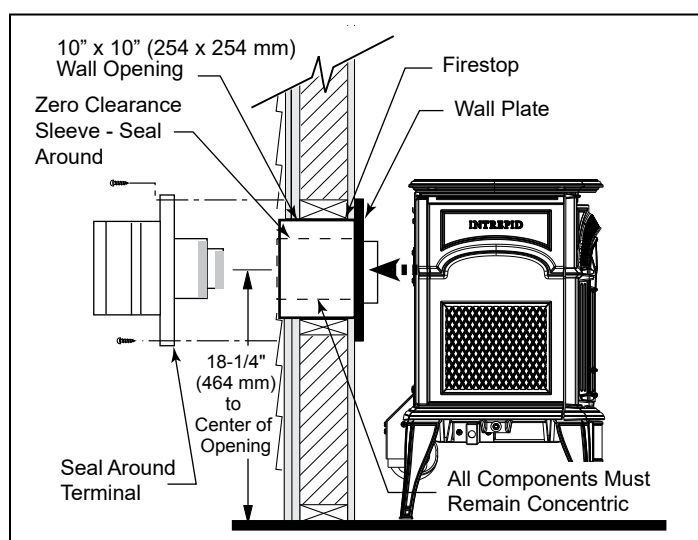

Figure 3.21 - Intrepid minimum horizontal rear vent installation.
5. Install the vent terminal, Figure 3.21. Guide the inner and outer vent termination collars into the adjacent pipes. Double check that the vent pipes overlap the collars by 2". Fasten the termination to the outside wall with the screws provided, and caulk the joint with weatherproof sealant.